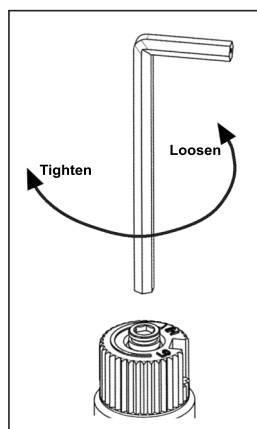

Figure 13: Removing valve screw.
- d) Insert a 5/32" or 4 mm Allen wrench into the hexagonal key-way of the screw (Figure 13), rotate it counter-clockwise until it is free and extract it.
- f) Using the Allen wrench as shown in Figure 13, rotate the screw clockwise. **WARNING!** Do not over tighten the screw.